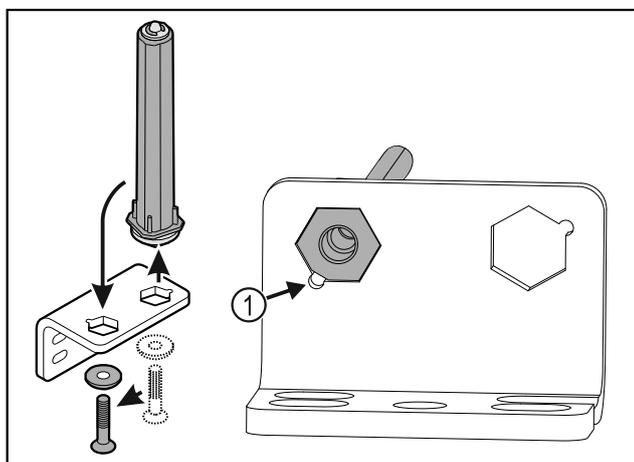

Fig. 38
- ▶ Make sure the pin chamfer Fig. 38 (1) faces the round hole when you put it in.